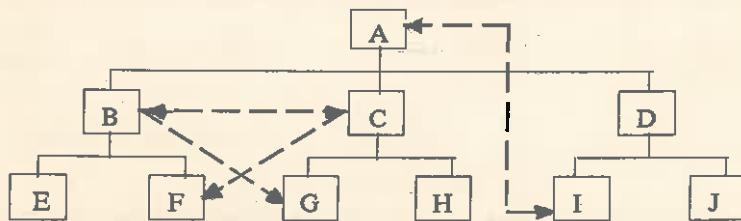

Fig. 3.10. Informal organization (shown dotted).
- Fig. 3.10 shows informal relationship (shown dotted) on top of a formal organization chart. In every organization there also comes into being a set of informal relationships through which the employees attempt to fill needs which are largely personal in nature.
- Informal relationships are developed due to a number of reasons. Some persons are natural leaders and other persons go to them for advice regardless of the position they occupy in the formal organization (shown in firm line in Fig. 3.10 above).
1. Fig. 3.10 shows that there is an informal relationship between employee A and employee I though there is a large difference between their positions in their formal organization. This may create favouritism to the detriment of overall employee relations and animosity may make for inefficiency and breakdown of respect for superiors.